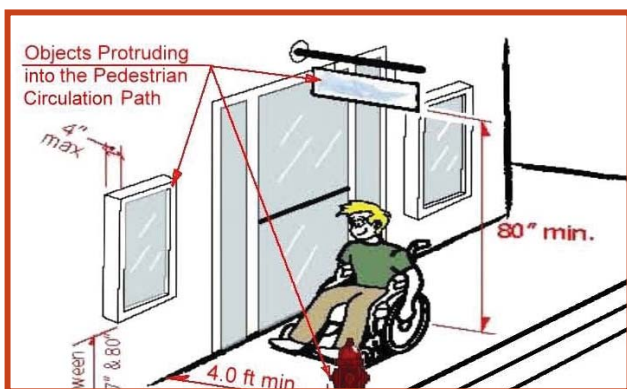

Figure 7 Protruding Objects
- Signs and other devices mounted lower than seven feet above the temporary pedestrian pathway should not project more than four inches into accessible pedestrian facilities. Refer to Part 6, Section 6D.02 of the California MUTCD. (See Figure 7 below.)